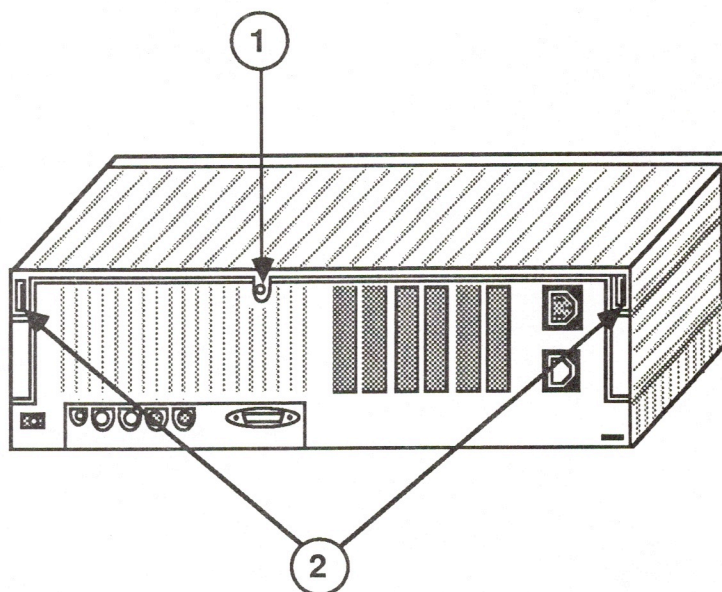

FIGURE 1
1. Remove the Phillips screw from the rear of the case (Figure 1, #1).
2. Locate the tabs on the rear of the machine (Figure 1, #2), one on each side.
3. Replace the Phillips screw (Figure 1, #1).